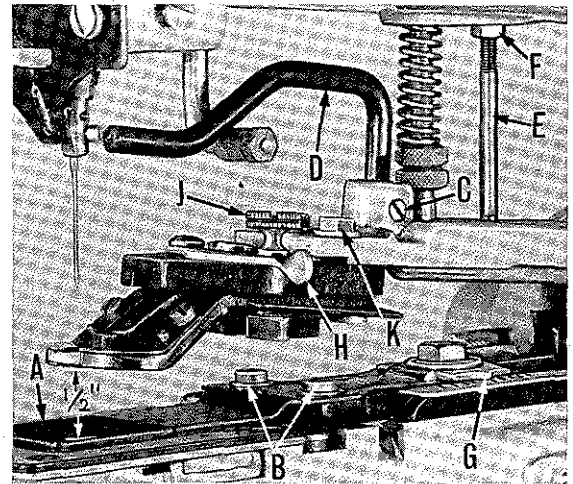
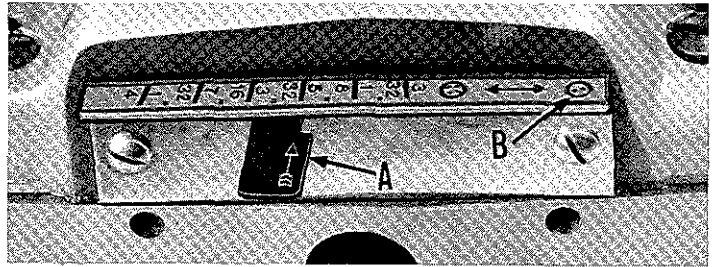

Fig. 7
Fig. 11
Make sure that the feed plate (A, Fig. 7) is set so that it does not interfere with the needle at any point of its travel.
With the machine in stop position, the normal distance between the bottom of the button clamp to the top of the feed plate should be $1/2$ inch (Fig. 7). To make this adjustment, loosen set screw (C), and raise or lower rod (D).
Return the machine to stop position, and check the position of the button clamp stop pin (E, Fig. 7). Its purpose is to prevent overthrow of the button clamp so that the needle will not strike the button or any other part of the button clamp. Insufficient clearance between the stop pin and the button clamp holder will cause the machine to re-cycle. Too much clearance will cause the button to strike the needle.
The stop pin, corresponding to (E, Fig. 7), should be set only as low as necessary to drop the feed plate holder off the latch when the machine has reached stop position.
Accurately measure the distance between the holes of the button, and set the pivot indicator (G, Fig. 7) and spring indicator (A, Fig. 11) to the graduations corresponding to the distance between the holes in the button.
With the machine in stop position, insert the button in the jaws of the clamp, and adjust the stop lever (H, Fig. 7) by means of screw (J) so that the button is held loosely by the jaws.
Set pivot indicator (G, Fig. 7) to proper graduation on scale corresponding to distance between holes of button, and set spring indicator (A, Fig. 11) on circle with two dots at left end of scale (B). Continue with adjustment of button clamp the same as for four hole buttons.
When sewing two hole buttons from back to front on Styles 200-6, 200-7, set pivot indicator (G, Fig. 7) and spring indicator (A, Fig. 11) to the proper graduations on scales, corresponding to distance between holes of button. Push in the lever located under the spring indicator (A, Fig. 11). This lever is not illustrated.